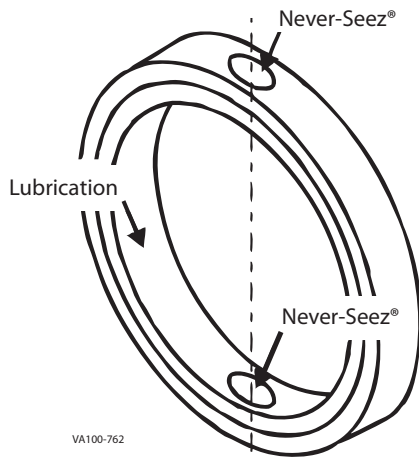

Figure 3 - Seal Lubrication
3. Remove the nuts and cap screw (items 4 and 5).
4. Separate the valve body halves (item 1).
5. Set the butterfly disc (item 2) to the open position.
6. Squeeze the seal (item 3) until oval shaped, then slide the short end of the stem from the seal.
7. Pinch the disc (item 2) between the thumb and forefinger, and pull the long end of the stem from the seal.
8. Check for a cracked or worn seal (item 3), stem and disc (item 2), or screw threads. Clean the valve disc and valve body (item 1) if necessary.
9. When inserting new seal, lubricate the inside diameter of the seal and apply Bostik Never-Seez® White Food Grade with PTFE or equivalent to the holes in the seal as shown in Figure 3.